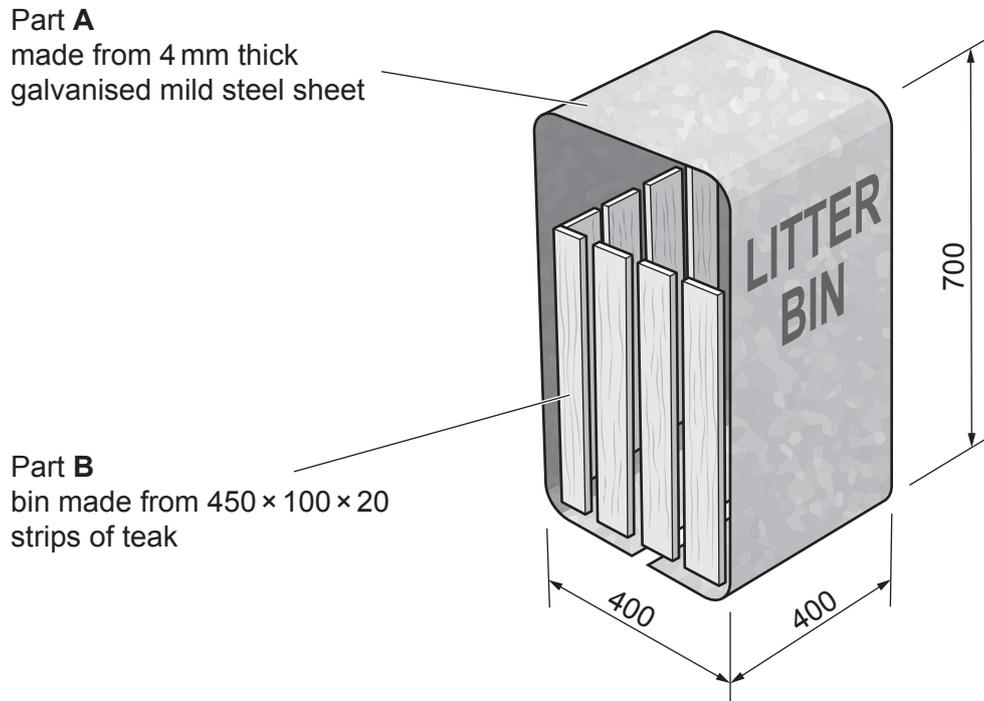

Fig. 1.1
- 1 Fig. 1.1 gives details of a litter bin which is to be made in a school workshop.